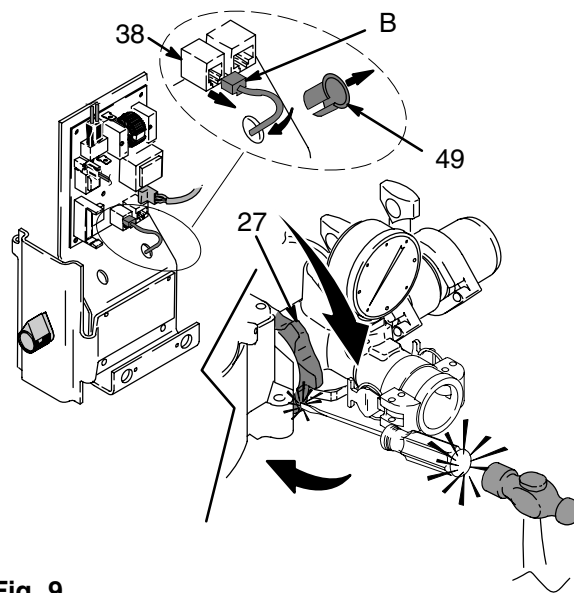

Fig. 9
4. Release hopper quick-release clamp (28).
5. Disconnect pump module (A) from frame (35).
6. Remove five screws (12) and motor cover (18).
7. Fig. 9. Disconnect transducer connector (B) from control board (38). Pull strain relief from bracket. Thread transducer connector through bracket.
9. Pry retaining spring (76) up on connecting rod (45). Push pin (75) out with a screwdriver.
10. Fig. 9. Loosen retaining nut (27).
3. Tighten retaining nut (27).
4. Push pin (75) in with a screwdriver. Push retaining spring (76) down on connecting rod (45).
5. Fig. 9. Connect transducer connector (B) to motor control board (38).